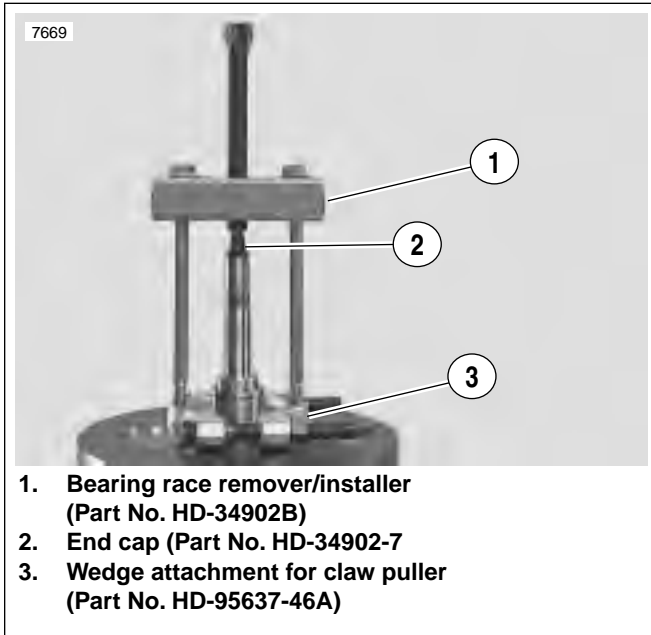

Figure 3-148. Removing Pinion Bearing Inner Race
8. See Figure 3-148. Pull inner race from pinion shaft using WEDGE ATTACHMENT for CLAW PULLER (Part No. HD-95637-46A) with BEARING RACE REMOVER/INSTALLER (Part No. HD-34902B) and END CAP (Part No. HD-34902-7). Apply heat to race to aid removal.